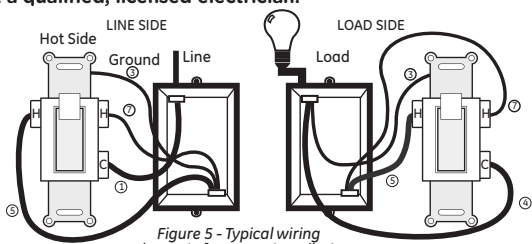

Figure 5 - Typical wiring schematic for 3-way installation
2. Using the Switch On LOAD Side of Figure 5 as a visual reference, label and remove the LOAD wire (4) from the common terminal (C) and the Traveler-2 wire (7) from the HOT terminal (H).
1. Using the LINE Side of Figure 5 as a visual reference, remove the LINE Side 3-way switch and the four wires, labeling the wire removed from the common terminal (C) as LINE (1) and the wires from the HOT terminals (H) as Traveler-1 (5) and Traveler-2 (7).